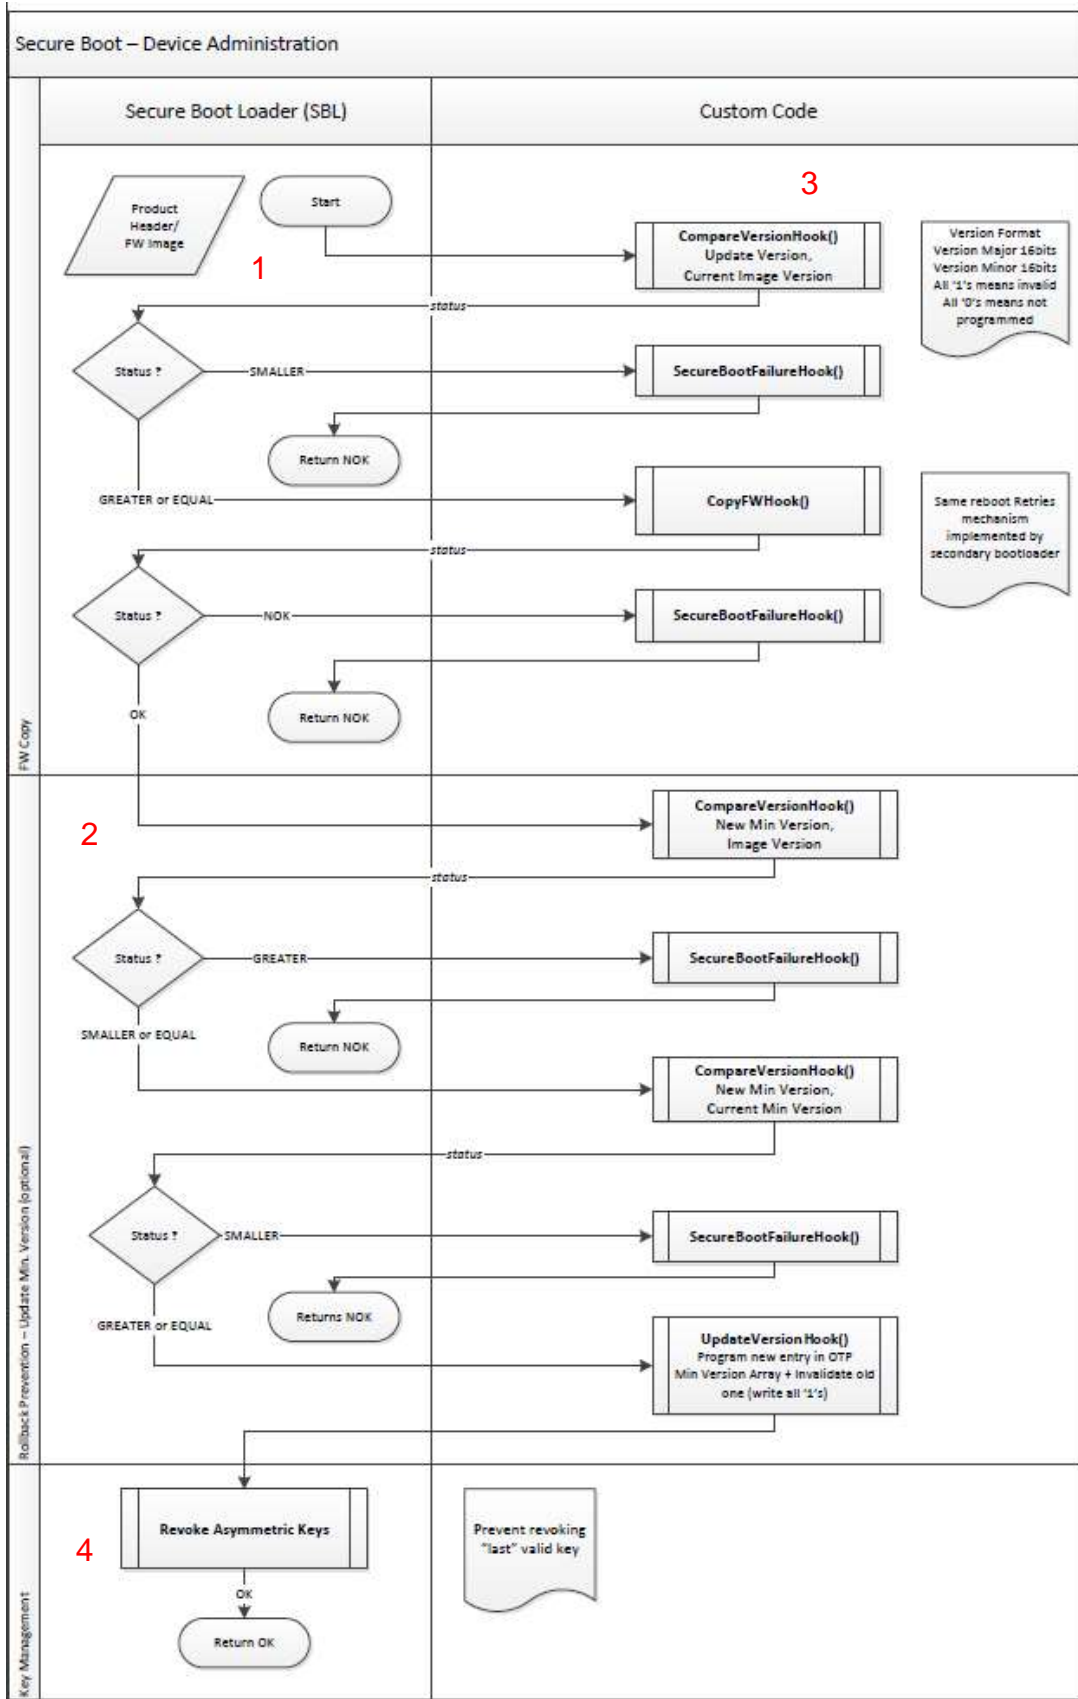

Figure 47: Secure Boot – Device Administration
- Copying of the FW stored on the 'update' partition to the 'executable' partition (section 1, Figure 47)
- Upgrade of the minimum FW version array (section 2, Figure 47)
- Customizable code (hooks), (section 3, Figure 47)
- Root/public keys revocation possibility (section 4, Figure 47)